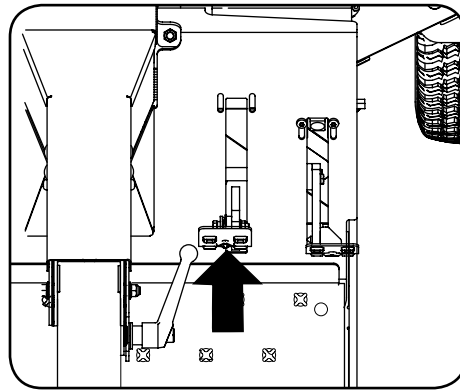

Figure 3-1
1. Slowly push the forward drive pedal forward. The tractor will start to move forward. See Figure 3-1.